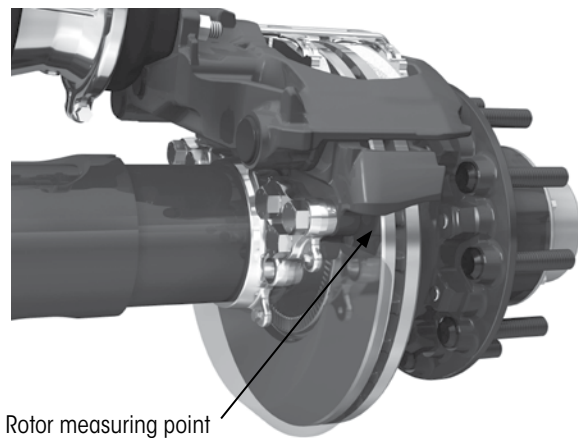
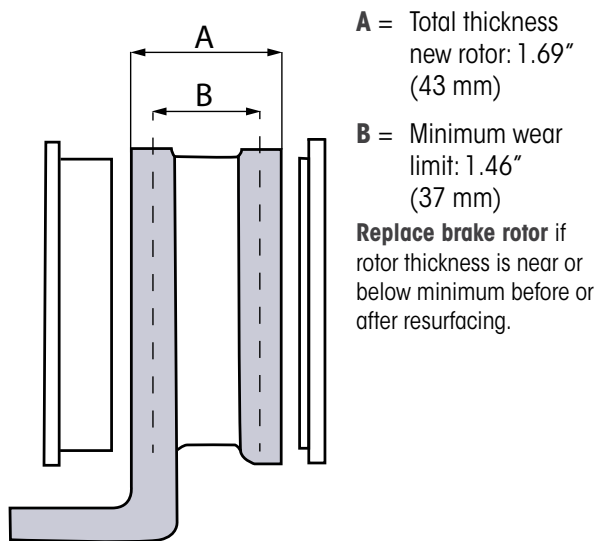
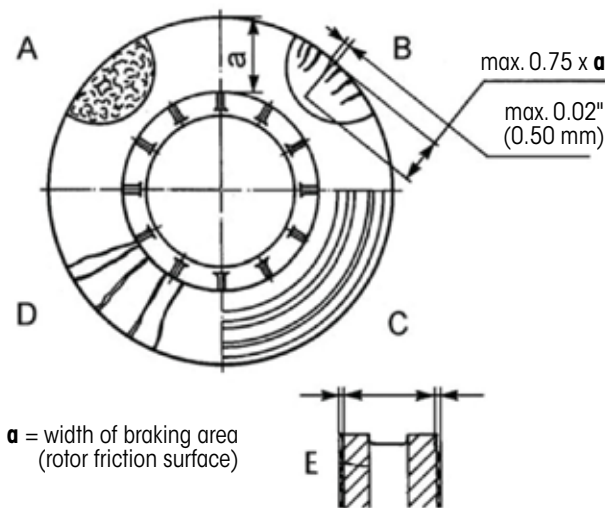

Figure 13: Measuring rotor thickness
Figure 14: Rotor thickness
Figure 15: Rotor condition analysis
1. **Measure** brake rotor thickness at the braking area (friction surface) at 3 points, 120° apart. Refer to Figure 13 and Figure 14, Figure 15 on page 13 for rotor condition examples and measurements.
2. **Check** the brake rotor for cracks and the condition of the friction surface (Figure 15).
3. **Replace** the brake rotor or have it properly resurfaced if the brake rotor runout is more than 0.006" (0.15 mm). Also replace if, after resurfacing, the thickness is below minimum (Figure 14).